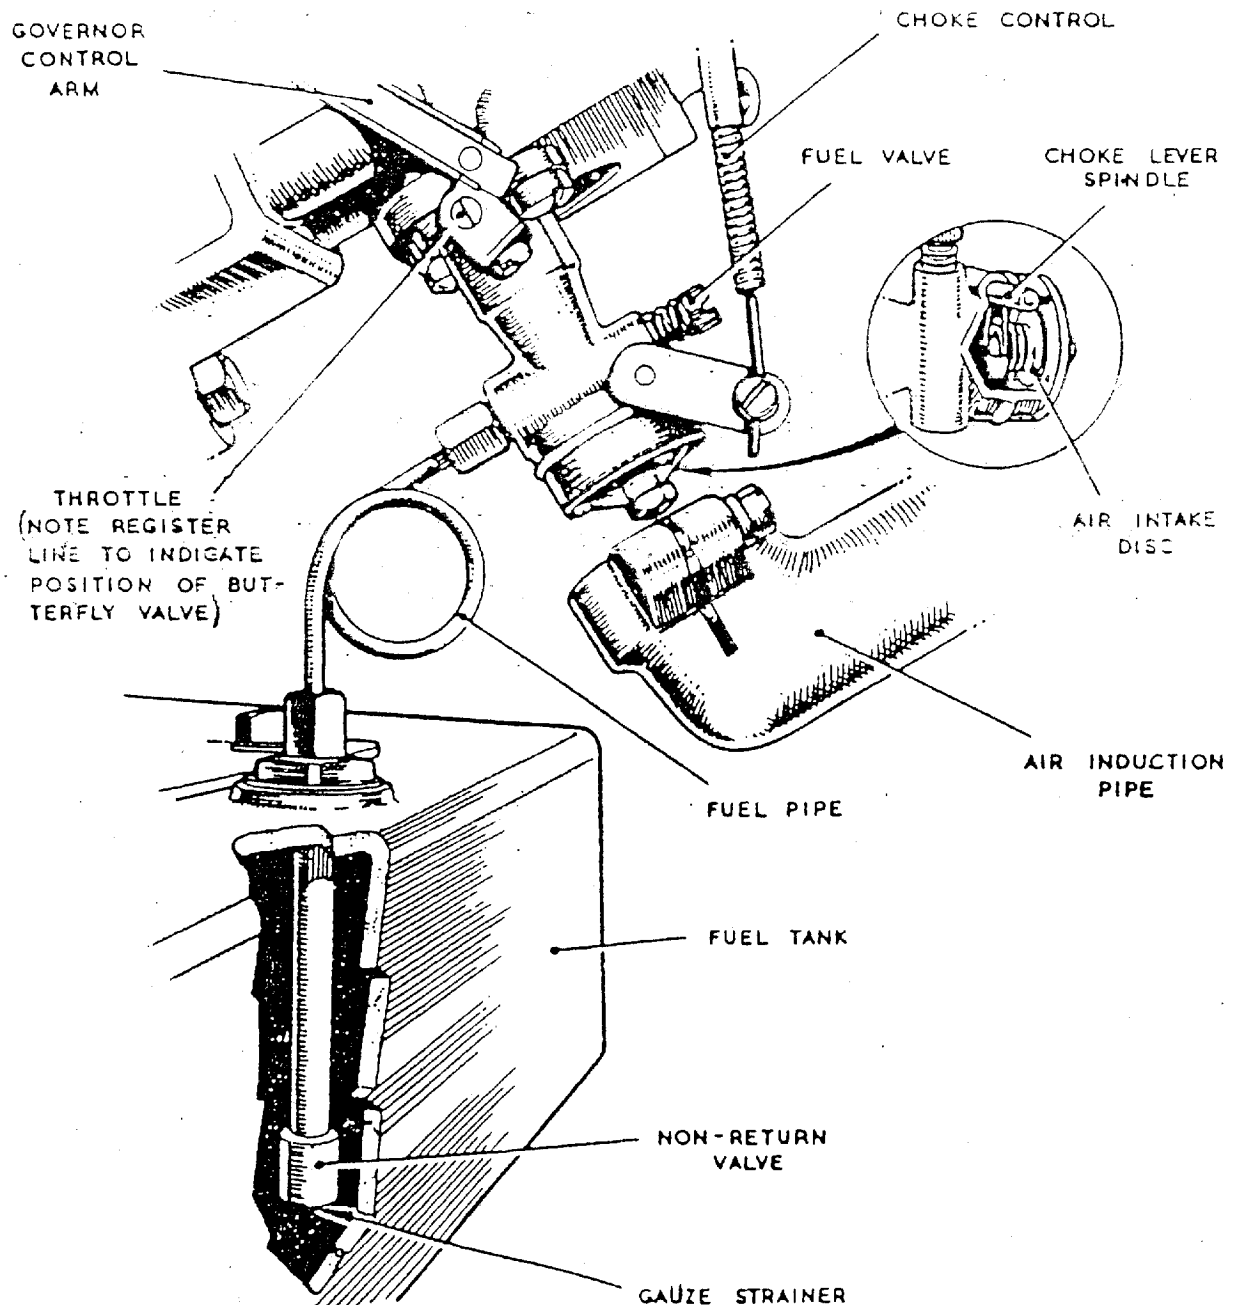

Fig. 7. The Carburettor.
1.4.1. The Carburettor. Fig.7. The carburettor is mounted on the side of the engine. The air induction pipe is connected to the bottom of it. There are three controls attached to the carburettor; the choke which restricts the volume of air drawn in through the induction pipe, the throttle which is connected to the governor and regulates the speed of the engine and the fuel valve which regulates the amount of fuel delivered to the carburettor. The carburettor is connected to the top of the fuel tank by means of a short pipe and there is a non-return valve and strainer fitted in a second short pipe housed inside the fuel tank.